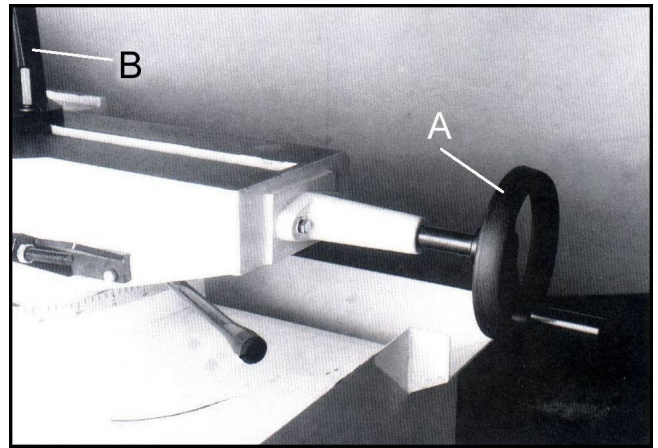

Fig. 15
1. Turn vise handwheel (A, Fig.15) counter-clockwise 1/2 revolution.
2. Move vise (B, Fig.15) to desired location by sliding along bed.